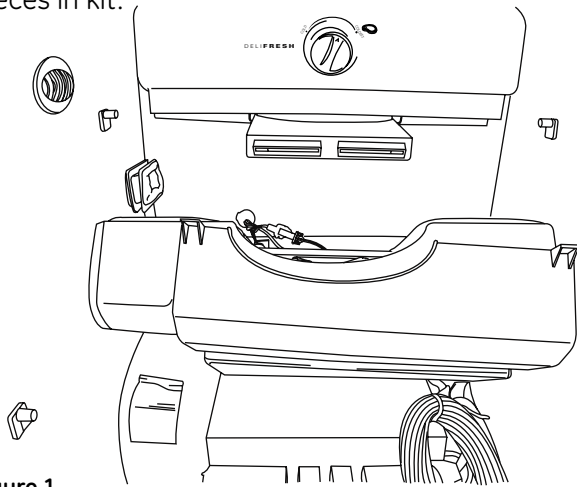

Figure 1
Remove the beverage center duct cover and the evaporator line cover. Remove the fresh food evaporator cover via the three (3) screws attaching it (Figure 1). Tilt the assembly out of the way of the beverage center duct. It is not necessary to disconnect the fans. Remove any ice present and dry the area thoroughly. Should Fresh Food Evaporator EPS Block or Air Return EPS Block become damaged in this process, utilize replacement pieces in kit.